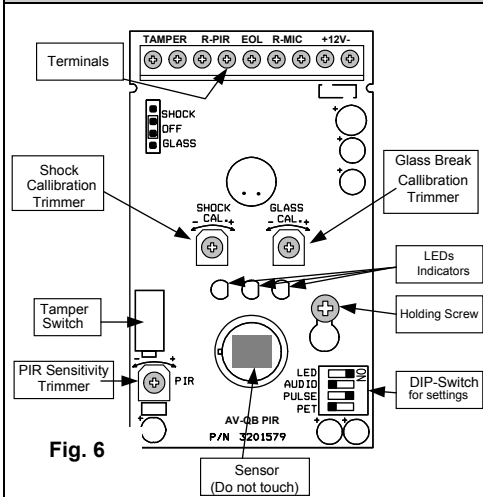

Fig. 6
2. Carefully unscrew the PCB holding screw located on the PC board (Fig. 6).